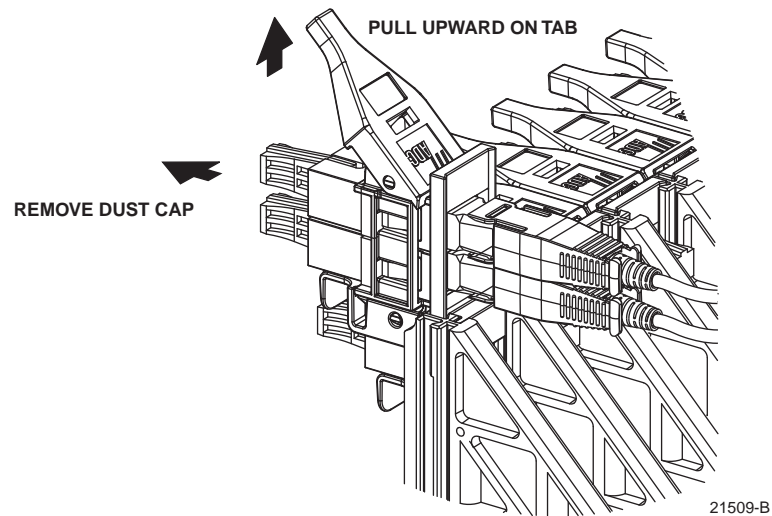

Figure 28. Typical Adapter Pack Raised to Access Position
2. Pull upward on the small tab on top of the adapter pack and lift the adapter pack to the position shown in Figure 28
2. Pull upward on the small tab on top of the adapter pack and lift the adapter pack to the position shown in Figure 28.